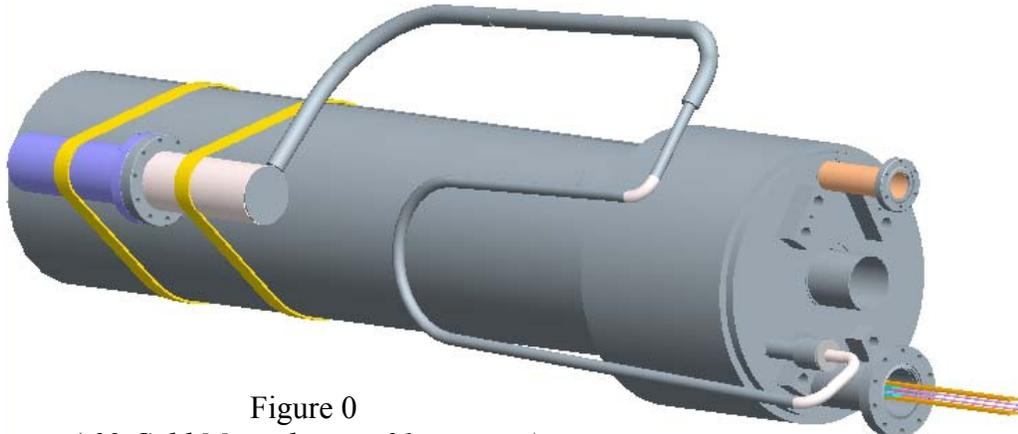

Figure 0
- 4.7.4 Temporarily secure the warm head at the lead end of the cold mass with 2 one-inch wide nylon ratchet straps as shown in Figure 0 so that it will not move during the pressure leak test. Tighten the straps only lightly to keep the can in place. Do not over tighten.